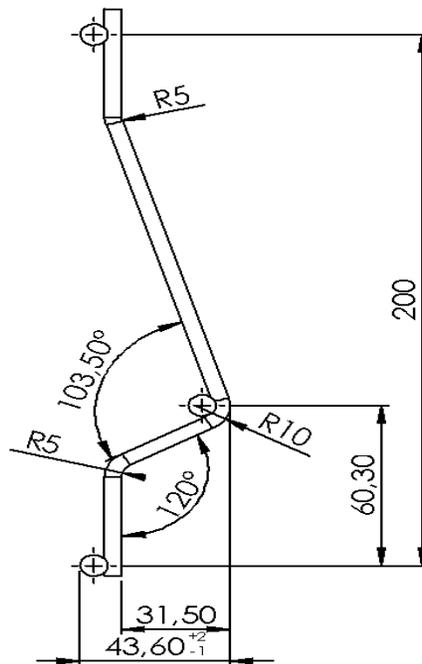

Fig. 4: Dimensions of the V-shape
Dimension of the V-shapes: see fig. 4.
- depth : $43,60 + 2,0$ mm/ -1 mm (see fig. 4)